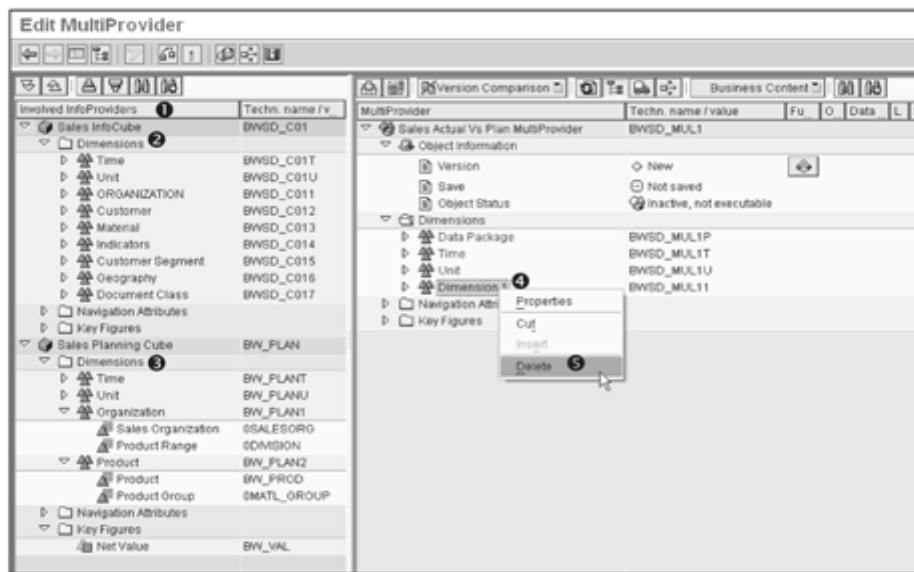

Figure 6.7 Edit MultiProvider: Deleting Dimension 1
The dimensions of InfoCube BWSD_C01 and BW_PLAN are shown in ❶, ❷, and ❸ of Figure 6.7. In this figure, characteristics within dimension Organization for Sales Planning cube are shown in detail. Because a MultiProvider is a logical definition
First, let's delete "Dimension 1," which is created by default by SAP NetWeaver BW. Select Dimension 1 as shown in ❶ of Figure 6.7, and open the context menu. Next, select Delete (❷).